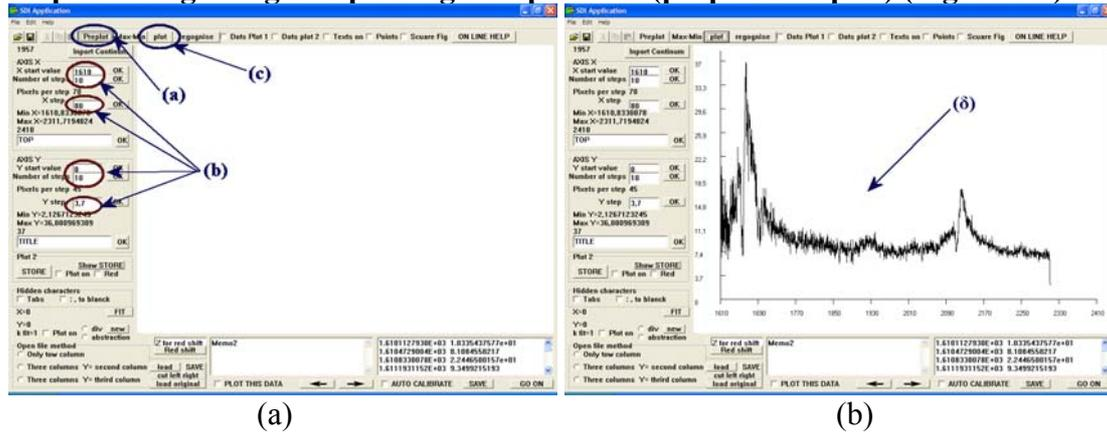

Figure 1.3
Step 2: Recognizing and plotting the spectrum (preplot and plot) (Figure 1.3)